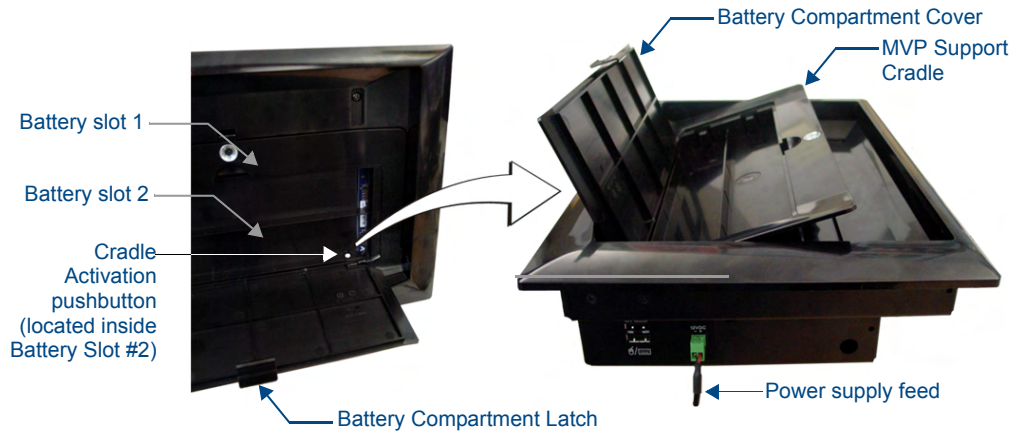

FIG. 5 Cradle activation pushbutton location and cradle angling
3. Open the Battery Compartment and press the Cradle Activation pushbutton (recessed white button located near the pins in Battery Slot #2) to angle the Support Cradle forward (FIG. 5).
2. Press the Cradle Activation Pushbutton (located inside the MVP-WDS battery compartment, next to the battery pins in Battery Slot #2 - see FIG. 5) to angle the Support Cradle forward.